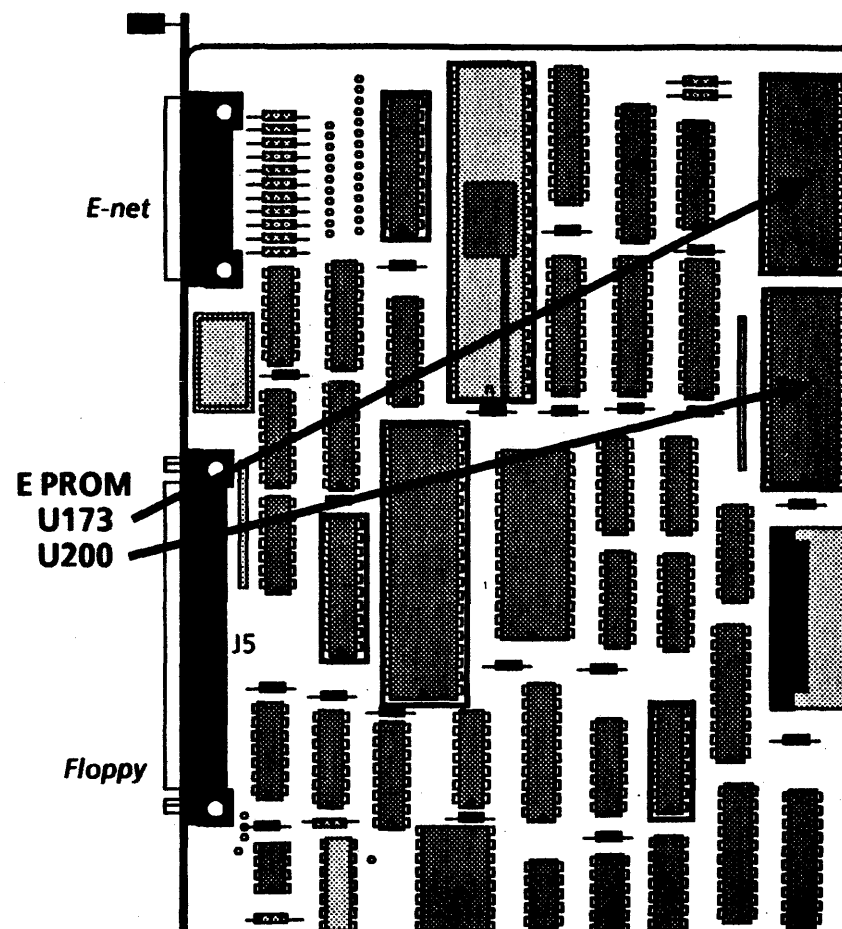

Figure 4-10 Boot PROM Locations
6. Locate the Boot PROMs on IOP PWBA (Figure 4-10) and remove them using the IC Chip removal procedure. (4.16)